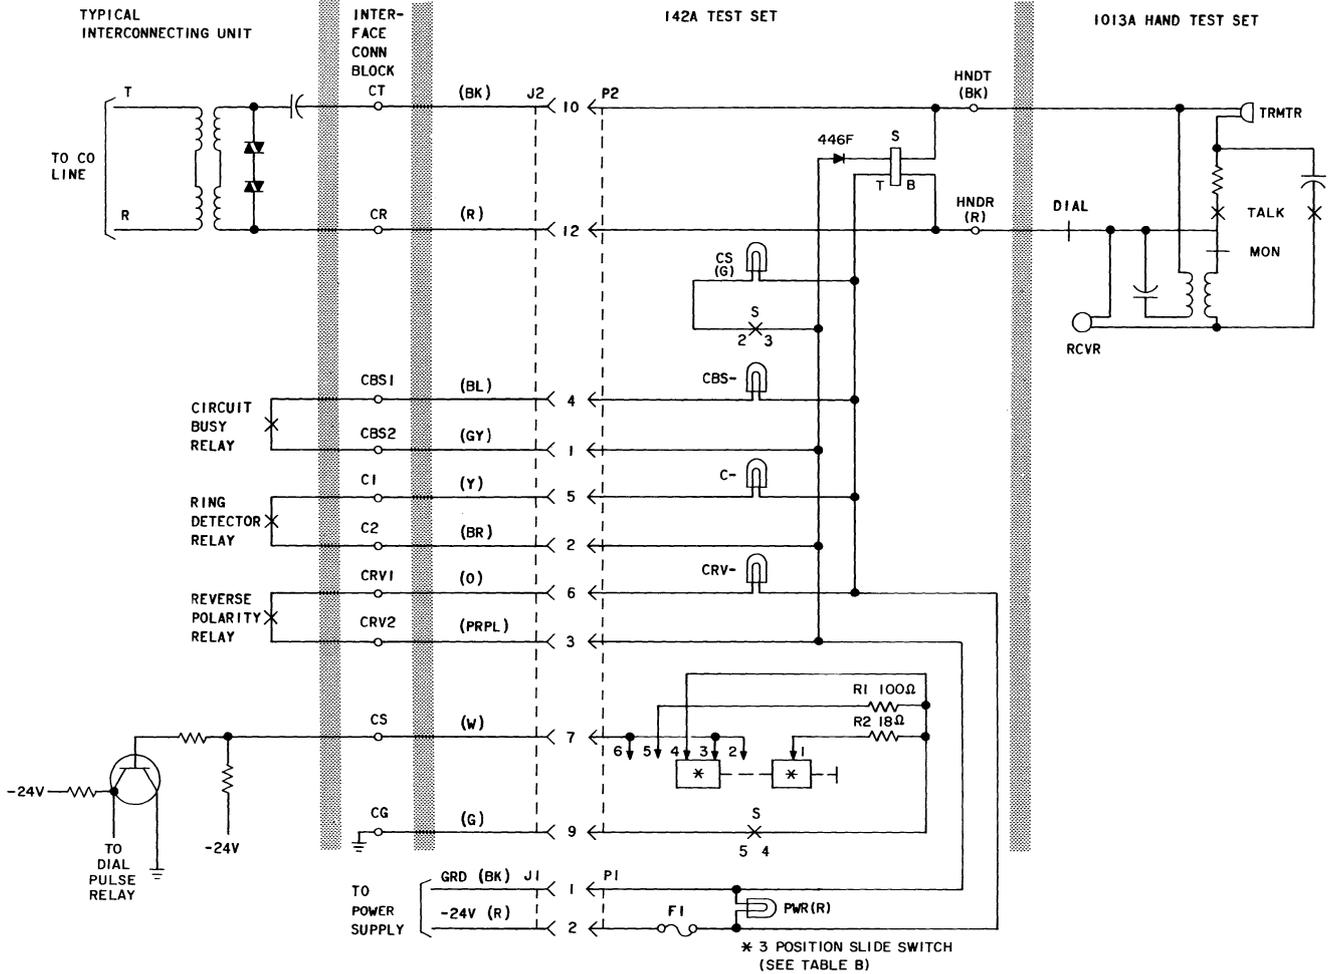

Fig. 2—142A Test Set, Connections
- Remove Fig. 2 (242A adapter)
- Change Fig. 3 (142A Test Set, Connections) to Fig. 2 and revise wiring for CS-CG resistance switch
4.01 Figure 2 provides a schematic of the 142A test set and the setup required to test a typical IU. For a complete schematic of the IU and testing procedures, refer to the section for the specific connecting arrangement.